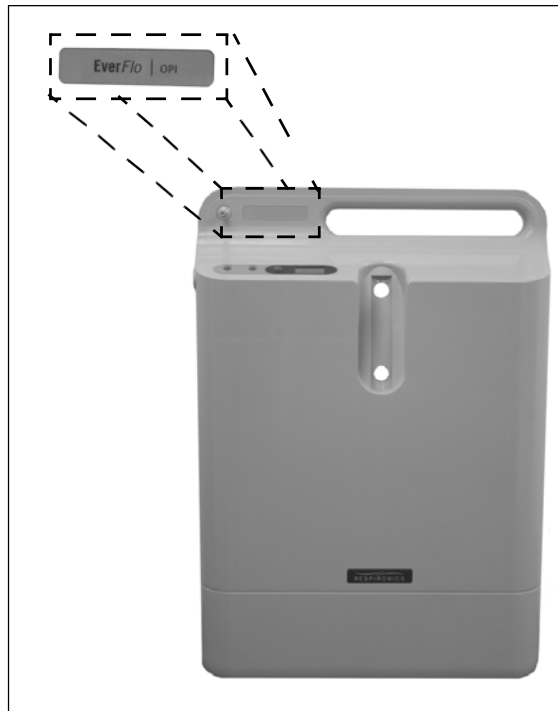

Figure 7-30: EVERFLO LABEL PLACEMENT
3. Place the two labels onto the Front cabinet and align with the clear section of the new Serial/Warning label included in the front cabinet repair kit. Refer to Figure7-30.
4. Place the Serial/Warning label over the generic labels and onto the Front Cabinet in the proper location. Refer to Figure 7-30.